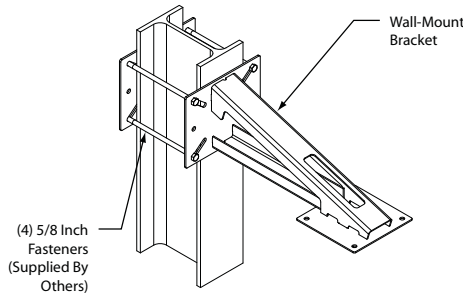

Figure 11 — Wall-Mount Bracket Attachment
1. Mount the Wall-Mount Bracket to wall or column using (4) 5/8 inch fasteners (Grade 5 minimum, supplied by others) through the back plate as shown in Figure 11. Tighten fasteners to 115 ft. lbs.